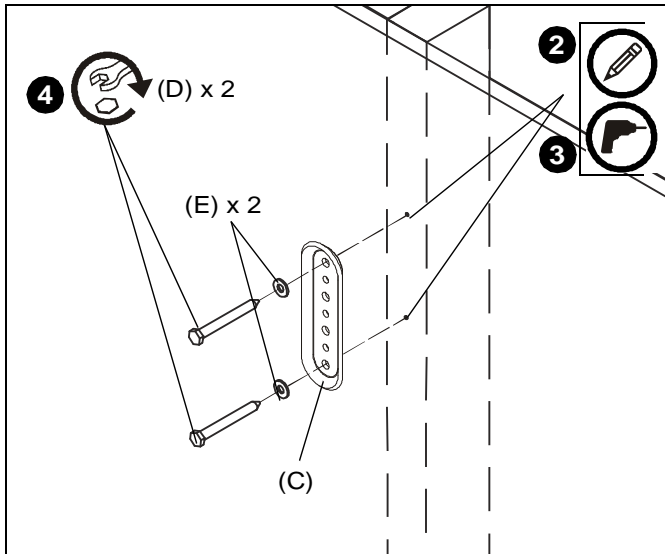

Figure 1
2. Using wall plate (C) as a template, mark location for two pilot holes through top and bottom holes of wall plate. (See Figure 1)
3. Drill two 1/8" diameter pilot holes through marked locations into wall structure. (See Figure 1)
4. Using 7/16" wrench, loosely install two 1/4" x 2 1/2" hex head lag screws (D) through two 1/4" washers (E), wall plate (C), and drywall into wood stud. (See Figure 1)
5. Ensure wall plate (C) is vertical, then tighten screws (D).